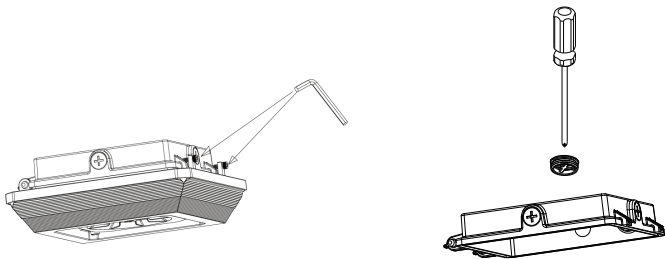

Fig.1-1
1. Open the driver box compartment by loosening the two allen screws on the side of the housing (Fig.1-1)